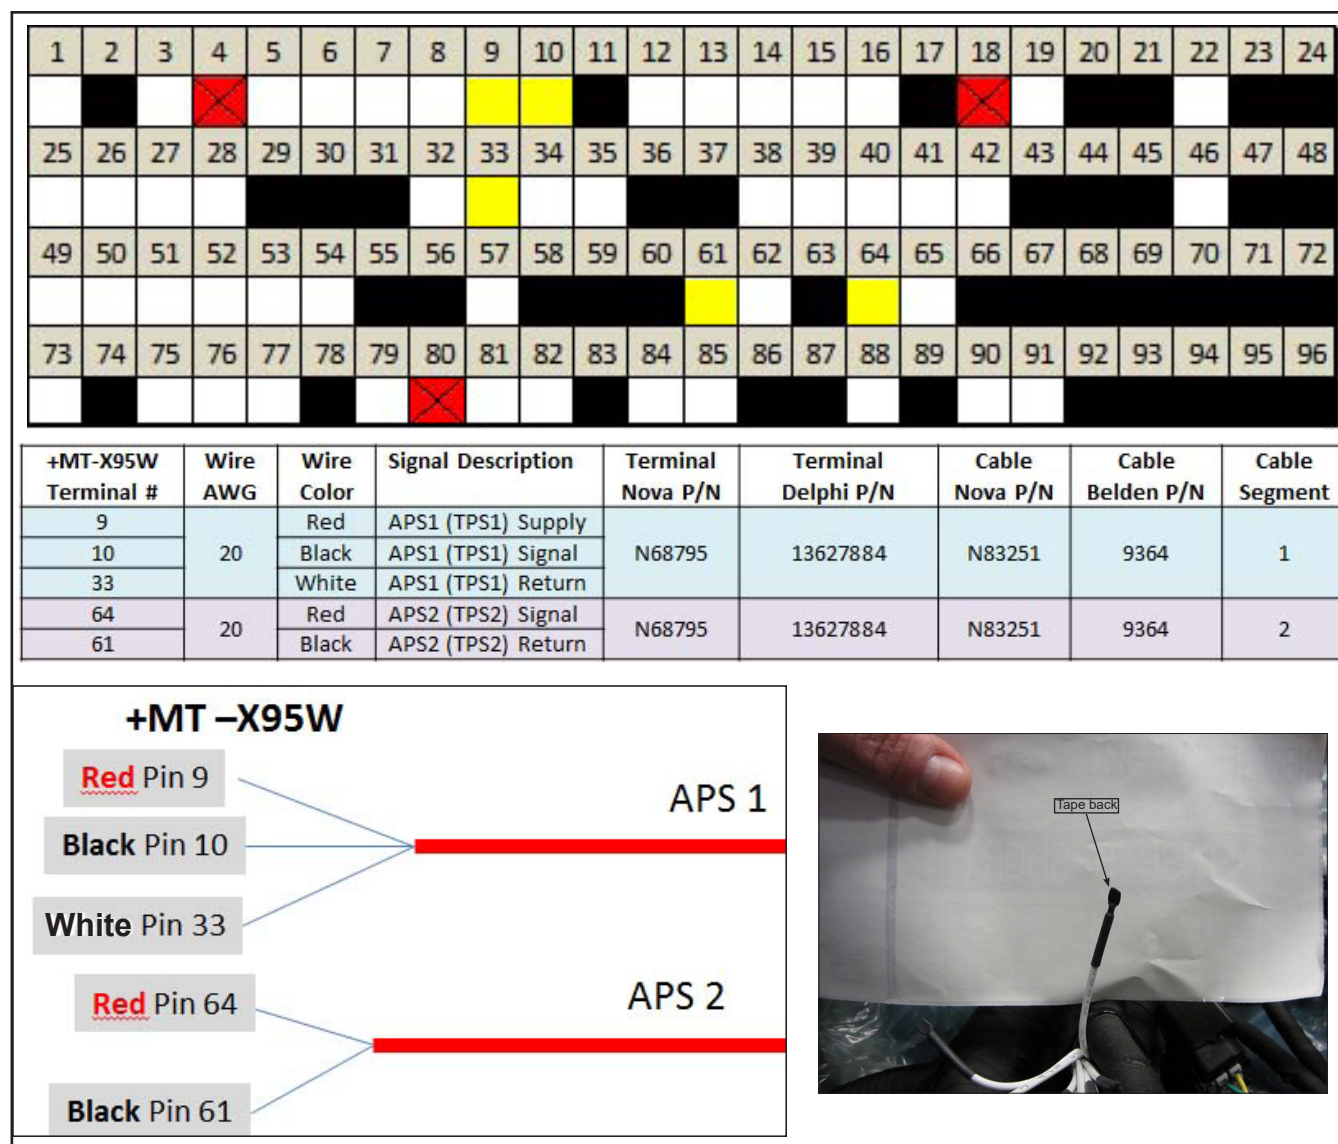

Figure 5 - Extract the Wires of the ECM Connector
- 1.5. Using N27548-18, cut and tape back all the wires that were disconnected. For APS 1, use positions 9, 10 and 33. For APS 2, use positions 61 and 64. Install the five new wires of the bypass cable wire kit. Reassemble the ECM connector and lower the vehicle (see Figure 5).